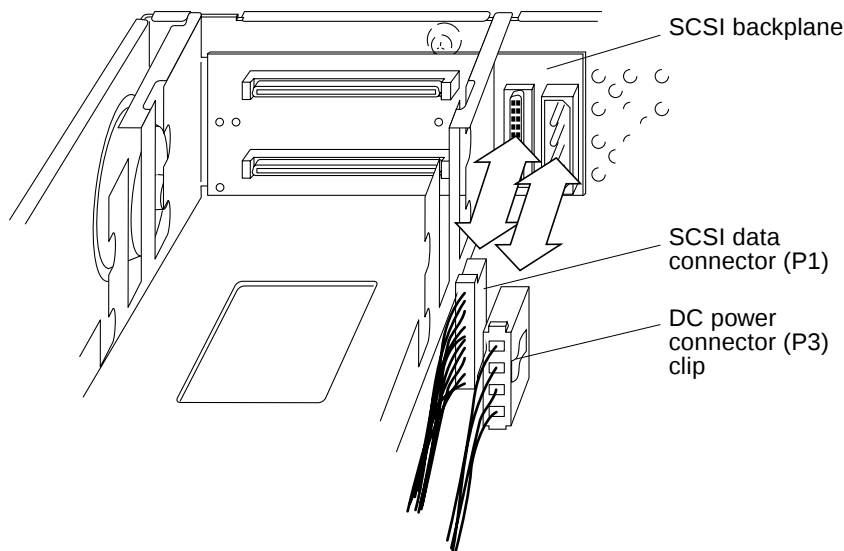

FIGURE 8-39 SCSI Backplane, SCSI Data, and DC Power Connectors
- 12. Remove the DC power harness from the metal cable guides (FIGURE 8-39).**
- 13. Disconnect the DC power connector (P3) from the SCSI backplane (FIGURE 8-39).**
1. **Place the DC power harness and SCSI data cable as follows (FIGURE 8-39):**
- 2. Connect P3 to the SCSI backplane (FIGURE 8-39).**